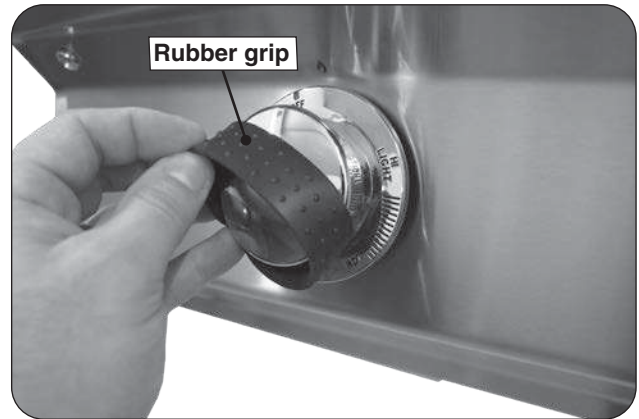

Fig. 22-1 Remove rubber grips
2. Remove the rubber grip from the control knob (see Fig. 22-1).